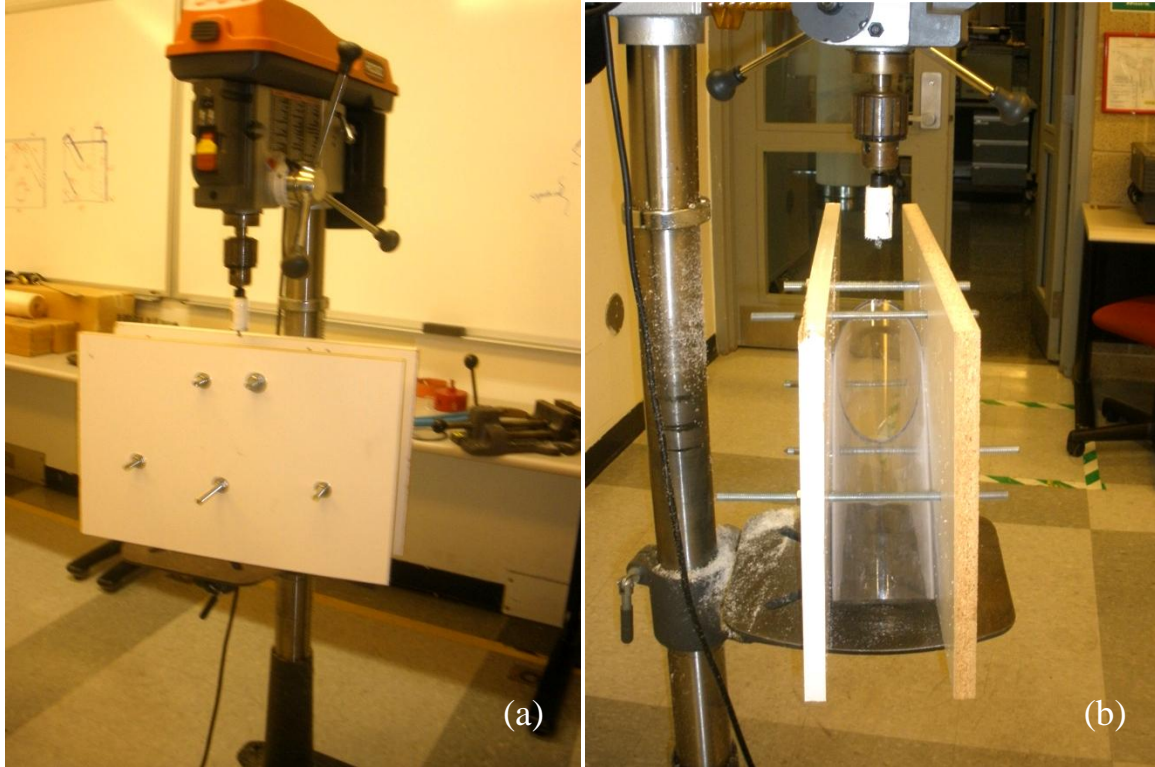

Figure 3. Drilling jig (a) set at drill press (b) side view at drill press
6. Construct drilling jig (Figure 3)
- Cut two (2) 21 in. x 14 in. wood rectangles (thickness = $\frac{3}{4}$ in.).
- Drill five (5) holes in both boards as follows:
- one (1) hole centered on long side ($10\frac{1}{2}$ in. from either end) and 5 in. from rectangle bottom
- two (2) holes $\frac{1}{2}$ in. higher than first hole and $6\frac{1}{2}$ in. to the side – one (1) hole to the left and one (1) to the right
- two (2) holes $2\frac{1}{4}$ in. from top. Each hole 9 in. from the side - one (1) hole to the left and one to the right, leaving a space of approximately 3 in. between holes
- Attach the two boards together using five (5) lengths of threaded bar (between 8 in. and 12 in.), one in each hole